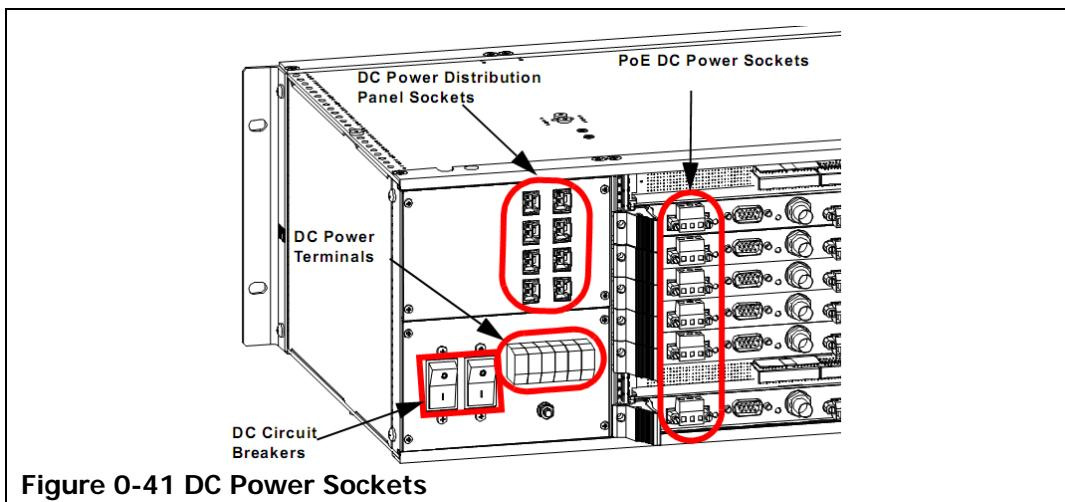

Figure 0-41 DC Power Sockets
1. Run a patch cord from each one of the DC power distribution panel sockets to one of the PoE card DC power sockets, shown in Figure 0-41 DC Power Sockets below. Make certain that you connect all of the installed PoE cards to the DC power sockets.